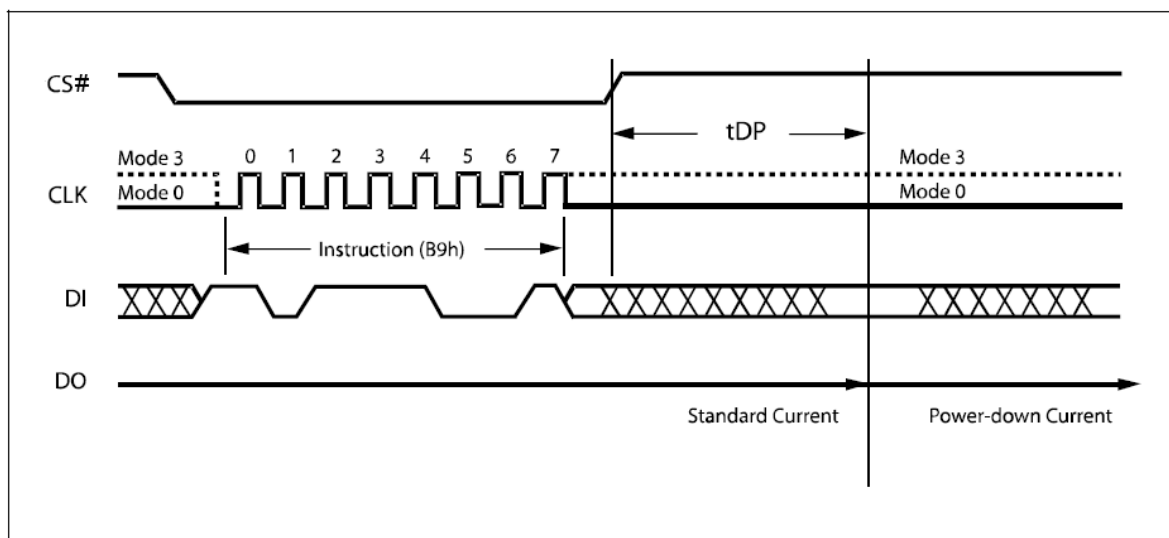

Figure 32. Deep Power-down Instruction Sequence Diagram
The instruction sequence is shown in Figure 32. Chip Select (CS#) must be driven High after the eighth bit of the instruction code has been latched in, otherwise the Deep Power-down (DP) instruction is not executed. As soon as Chip Select (CS#) is driven High, it requires a delay of t_{DP} before the supply current is reduced to I_{CC2} and the Deep Power-down mode is entered.